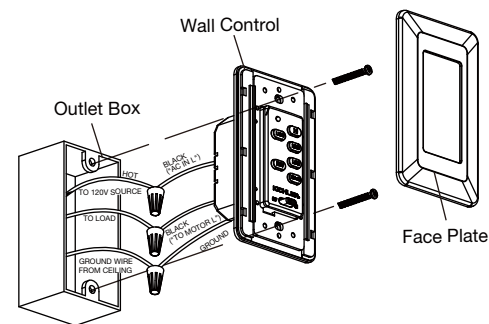

Fig. 30
Step 2. Place the wall control to the outlet box, connect the wires with wire connectors provided. (Fig. 30)
Step 3. Secure the wires connections and make sure there are no loose strands or connections. Put wire connections back inside outlet box and secure the wall control to outlet box with screws provided. Snug the face plate to wall control. (Fig. 30)